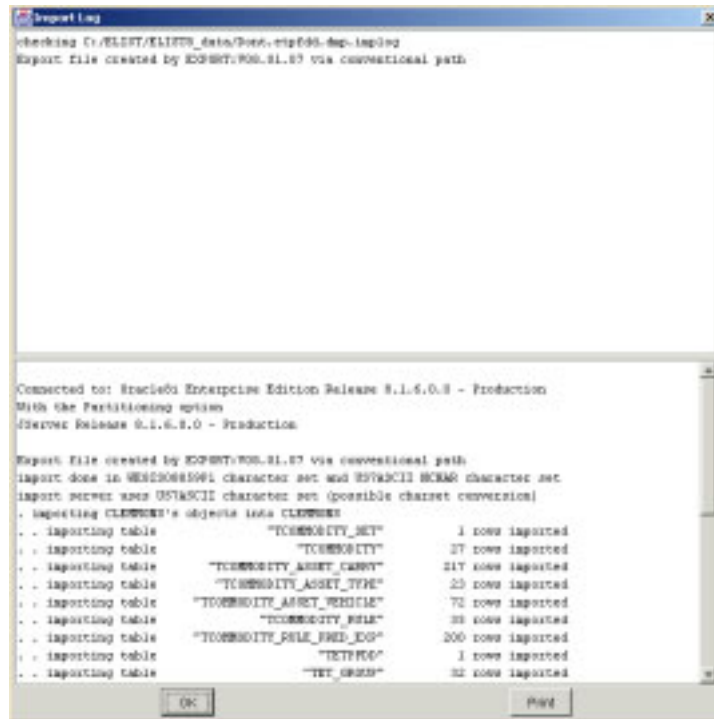

Figure 5.23 Import Log Window
- To import the ETPFDD, click OK. The file is imported and the Import Log window opens (Figure 5.23).